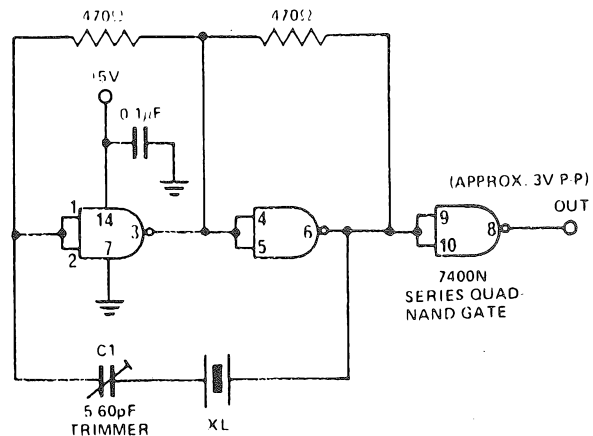

Fig. 4. Reliable TTL crystal oscillator.
TTL ICs can be used in crystal oscillator circuits but many published circuits have poor starting performance or suffer from non-repeatability owing to wide parameter spreads in ICs. The circuit in Fig. 4, is by K1PLP from QST, Feb. 1974 (5) and is after Weggeman (6). This circuit has been tried by the writer over the range 1 MHz to 18 MHz and can be recommended. It is a series